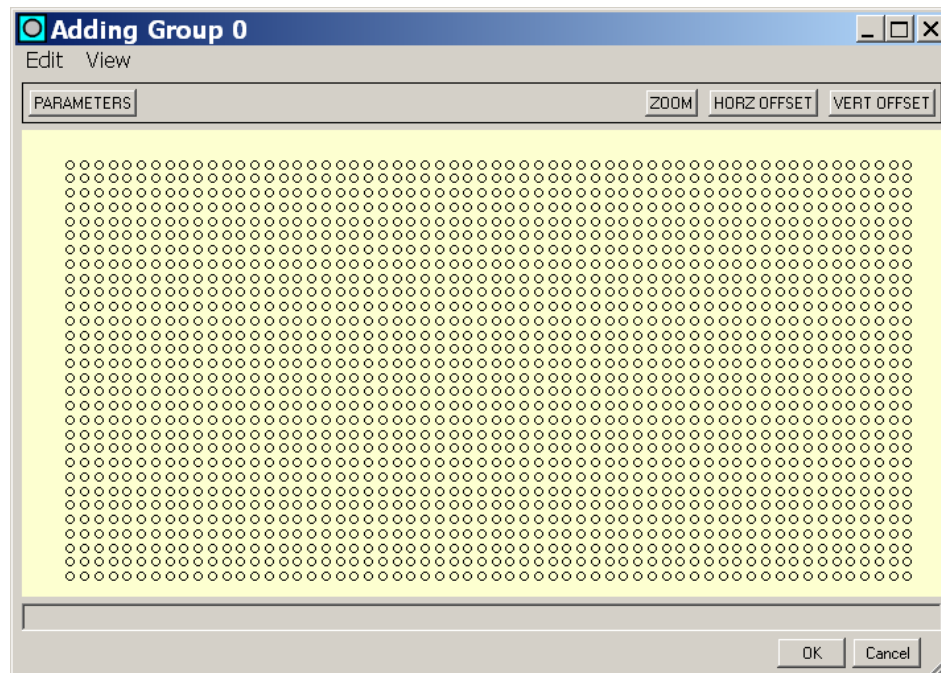
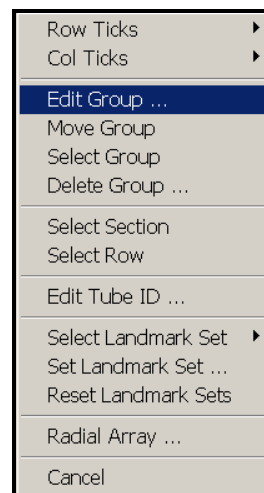

Figure 36. Adding Group Dialog
Figure 42. Popup Menu on Main MakeComp Window (Right-click Map)
Selecting the **ADD GROUP** button in Figure 21 causes the **Adding Group** dialog shown in Figure 36 to appear. The circles in the window indicate possible tube locations. A circle represents a *disabled* tube location on the *building grid* while a black filled circle indicates an *enabled* tube. This dialog is used to:
Clicking the **Parameters** button on the **Adding Group** dialog shown in Figure 36 causes the **Group Parameters** dialog shown in Figure 37 to appear. All the necessary details about a new group of tubes should be entered on this dialog before building the group; however, they can be entered anytime. These parameters define the building grid that will be created in the **Adding Group** dialog. Each parameter on this dialog is defined below. Please refer to Figure 37 as each parameter is described.
The **HORZ OFFSET** button shown in Figure 36 allows the user to move enabled tubes to the left or to the right on the *building grid*. Care should be exercised when using this feature since enabled tubes will be deleted if moved beyond the perimeter of the *building grid*. The button is used as follows:
The **VERT OFFSET** button shown in Figure 36 allows the user to move enabled tubes up or down on the *building grid*. Care should be exercised when using this feature since enabled tubes will be deleted if moved beyond the perimeter of the *building grid*. The button is used as follows:
To duplicate an existing group of tubes, right-click the desired group on the tubesheet map displayed in the main **MakeComp** window, and select **Edit Group** from the popup menu as shown in Figure 42. Next, the selected group of tubes is displayed in the **Editing Group** dialog (essentially the same as the **Adding Group** dialog shown in Figure 36). Immediately click **Edit | Dupe Group**. This action duplicates and displays the newly duplicated group.
Typical changes may include the section number, the landmark set to be used for this group, the first row number in the new group, the origin, etc. Finally, click **OK** on both the **Group Parameters** dialog, and then the **Adding Group** dialog. The newly *duped* tube group now appears in the main **MakeComp** window. Use the **Move Group** feature on the popup menu in Figure 42 to move the new group to the desired location. The features of the popup menu are discussed in detail later in the **Popup Menu** topic.
- ❑ **Edit | Reset Landmark Sets:** Resets all tubes to their originally assigned landmark sets. This same selection is available on the popup menu in Figure 42. Using the **Set Landmark Set** on the popup menu in Figure 42 allows the user to assign existing or create new landmark sets for a single tube, individually selected tubes, group(s) of tubes, sections, or whole tubesheet maps. **Reset Landmark Sets** provides a way to reset all landmark sets to the way they were originally assigned in the **Group Parameters** dialog (Figure 37) when each group was *built*.